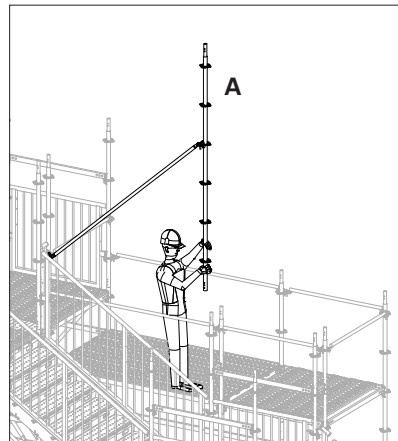

Fig. B3.01a
1. From the temporary landing platform, attach 1 x Node Brace UBK-2 (**68**) to the Standard at 1m above the platform level on the previous tower, then connect the other end to 1 x Standard UVH-2 300 (**17**) at 2m high and insert the Standard at point **(A)** (Fig. B3.01a).